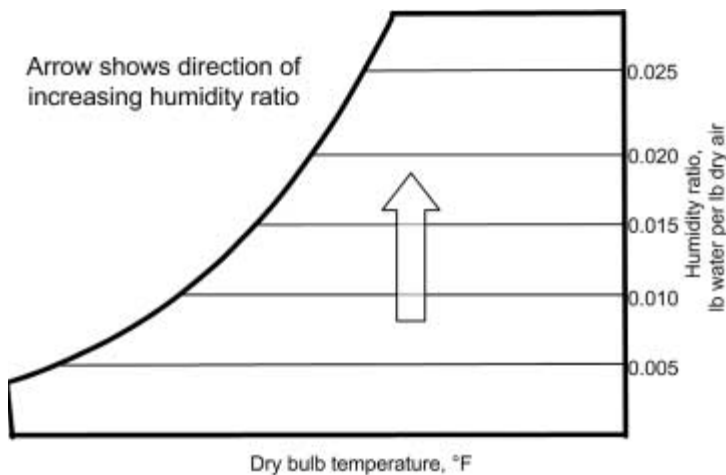

FIGURE 2.4 Psychrometric chart showing lines of constant humidity ratio.
- The *humidity ratio* is the mass of water per mass of dry air; for example, lb. H2O per lb. dry air. This is sometimes expressed as grains of water per pound of dry air (there are 7000 grains per pound.) Figure 2.4 shows how the humidity ratio varies on the psychrometric chart, and Table 2.2 gives the humidity ratio for sea level and high altitude cities.